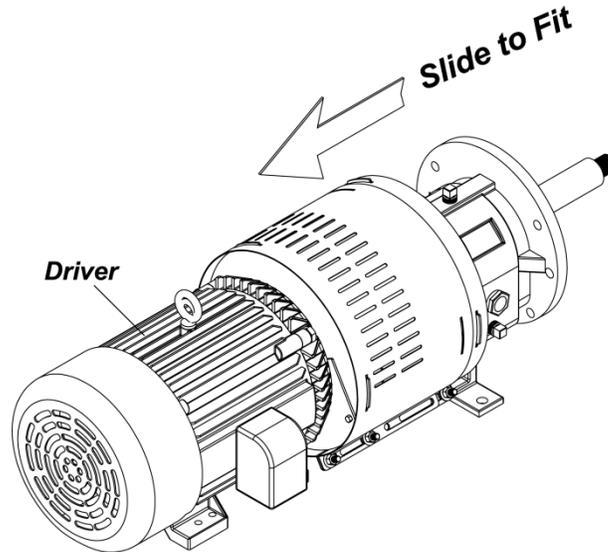

Figure 12-11: Fit Guard to Motor
5. Adjust the length of the coupling guard to completely cover the shafts and coupling as shown in Figure 12-11, by sliding the coupling guard half (driver end) toward the motor. After adjusting the length, secure the guard with a bolt, nut and two (2) washers through the slotted holes at the center of the guard and tighten. Check tightness on all nuts on the guard assembly.